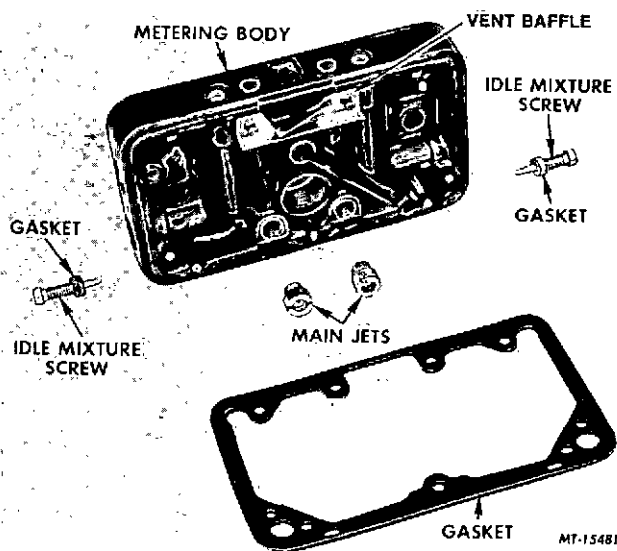

FIG. 31 Primary Metering Body, Fuel Bowl Side (Disassembled View)
7. Remove gasket and main metering jets using 3/8 inch wide screwdriver or proper jet socket (Figure 31).
8. Turn idle limiter caps "clockwise" to stops. Remove caps by prying off of idle mixture screws (if used). (NOTE: Be careful not to bend screws). Count and record exact number of "clockwise" turns to seat each screw lightly. The same number of turns must be maintained from the seat upon reinstallation. Remove screws and gaskets from metering body. Remove vent baffle (Figure 31).
NOTE: Inspect mixture screws. If the tapered portion is grooved or ridged, a new mixture screw should be installed to insure ability to maintain the correct idle mixture. Turn screws in lightly against their seats. Back each screw out the exact number of turns recorded during disassembly (Figure 31).
3. Install main metering jets using proper screwdriver or jet wrench (Figure 31).
4. Install fuel baffle (if used). Press metering body and fuel bowl gasket down firmly on the dowels (Figure 31). **CAUTION:** Be sure you are using the correct metering body gasket and that bowl gasket is not covering the accelerator pump passage.